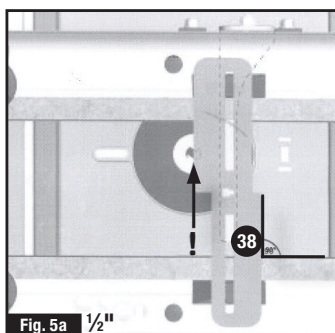

Fig. 5a 1/2"
Adjust the appropriate finger stop (1/4" or 1/2") against the finger and tighten the nut. For 1/2" use the stop on the brace side and for 1/4" use the stop on the slider side of the finger. See Figs. 5a & b
7. The Initial Cut Stop (38) offsets the workpieces being joined. It has a 1/4" step on one side and a 1/2" step on the other. It also determines the position of the first finger. As a starting point set up as shown in Fig 5a & b (as viewed from the front - switchbox end). Place the initial cut stop onto its supports with the keys locating in the long slots. Loosen the nuts and position the supports, by sight, to align the edge of the initial cut stop with the centre of the cutter (marked "!" in Fig. 5a & b). Use a square to ensure it is 90° to the fence. Re-adjust, as necessary, after making the practice joint.
4. Fit the initial cut stop as shown in Fig 5a & b. Slide it forward or backward until the stop is approximately halfway between the fences